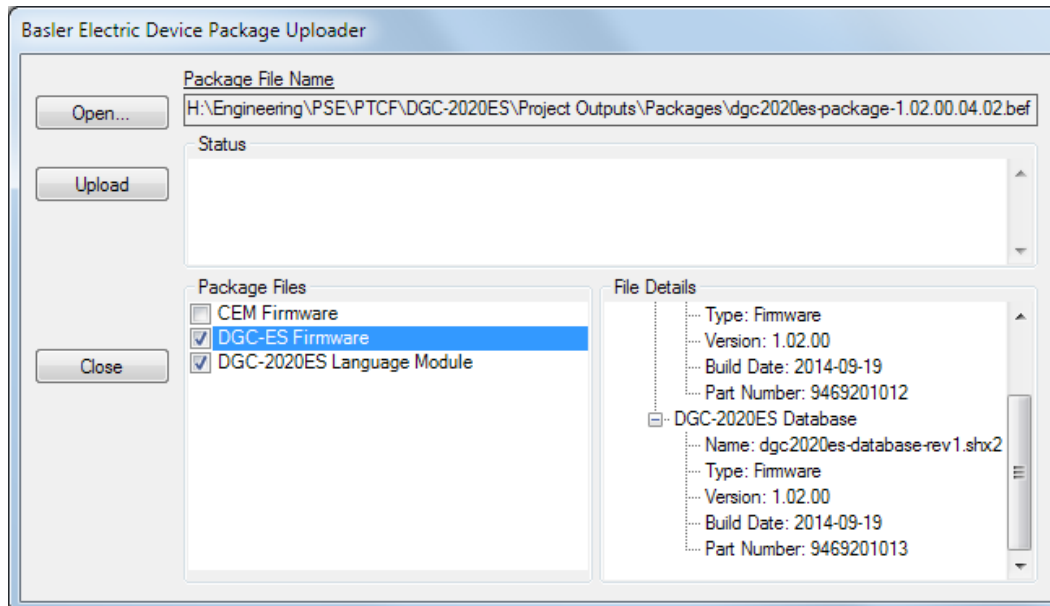

Figure 3-14. Basler Electric Device Package Uploader
7. When the *Basler Electric Device Package Uploader* screen (Figure 3-14) appears, click on the *Open* button to browse for the device package you have received from Basler Electric. The *Package Files* along with *File Details* are listed. Place a check in the boxes next to the individual files you want to upload.